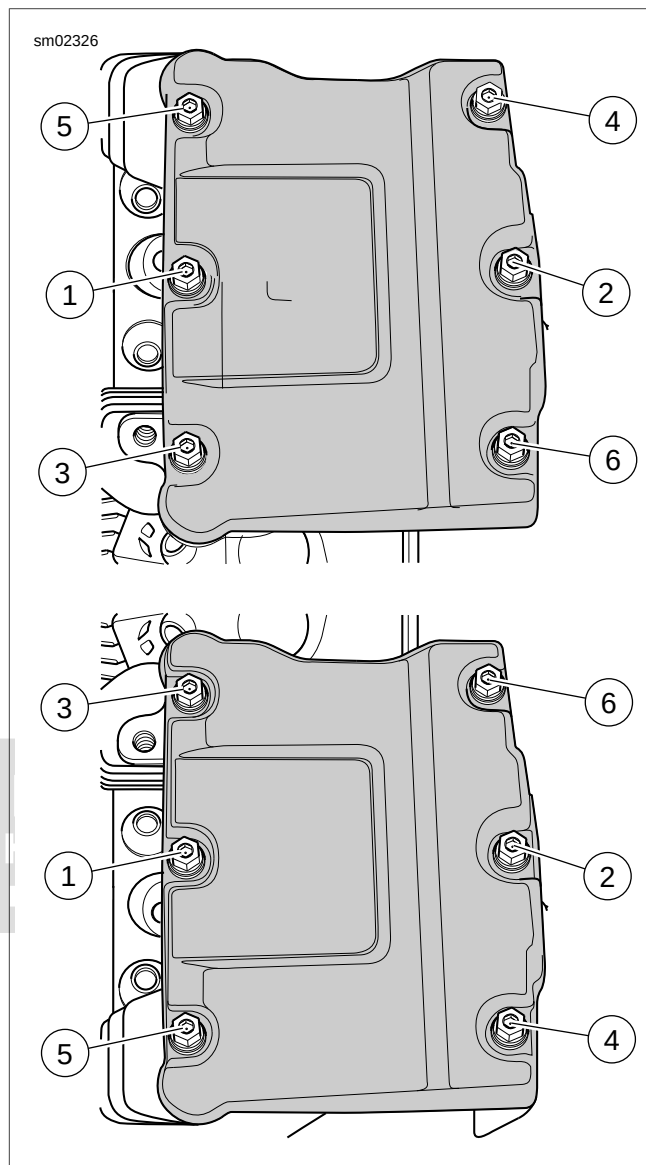

Figure 3-13. Rocker Cover Bolt Removal Sequence
2. See Figure 3-13. Following the sequence shown, alternately loosen the six rocker cover bolts. Remove the rocker cover bolts and their captive washers.